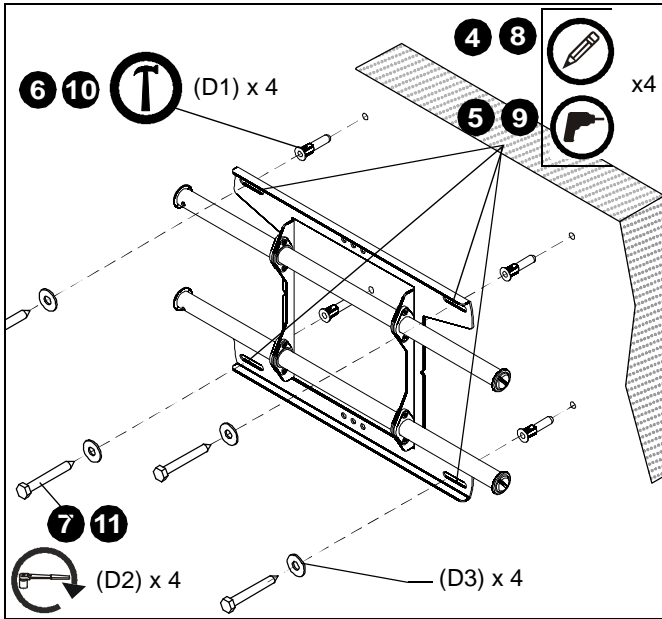

Figure 4
- Using a level, mark the wall through both upper mounting slots. (See Figure 4)
8. Mark the attachment points for the lower mounting slots. (See Figure 4)
9. Drill one pilot hole at each marking for lower mounting holes. (See Figure 4)
11. Use two 5/16 x 2-1/2" lag bolts (D2) and two 5/16" flat washers (D3) to attach the mount to the wall through the lower mounting holes. (See Figure 4)